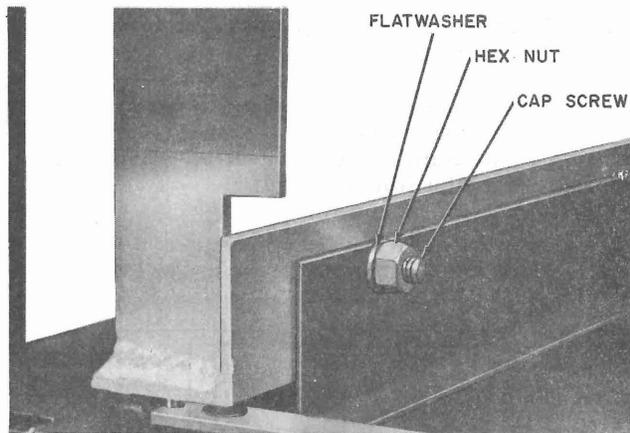

Fig. 2
4.03 To prevent damage to slides in shipping a 5/16-inch bolt is placed through the bottom of each slide and its supporting framework (Fig. 2). These bolts must be removed before slides can be opened. Retain bolts for future shipping use.